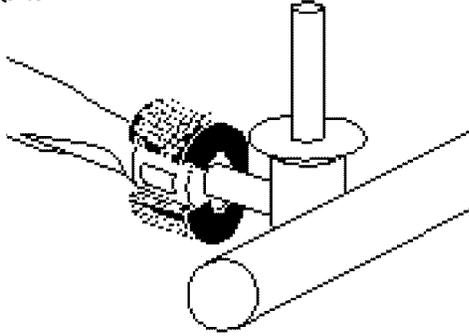

Figure 12
9. Unlatch the Spider Stopper Guards and remove. Figure 12